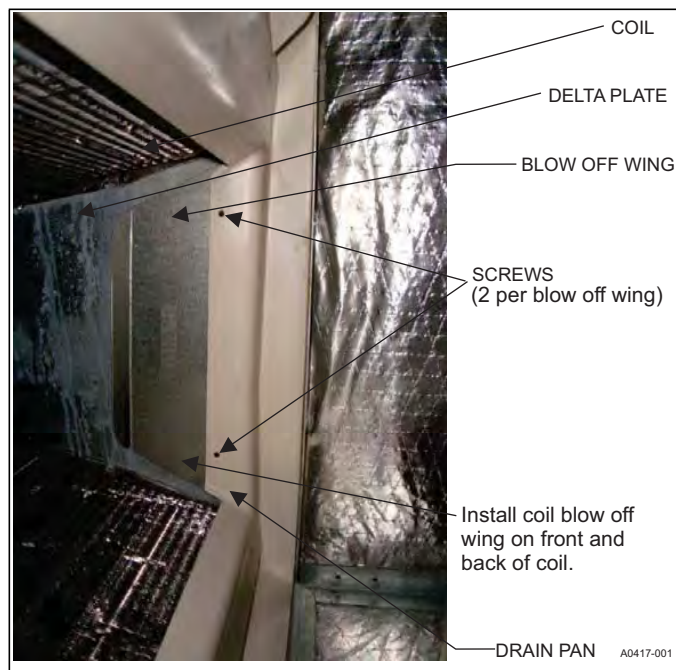

FIGURE 7: Coil Blow Off Wing Installation
9. For horizontal right applications (N coils only), the front and back coil blow off wings must be installed (blow off wings shipped in loose parts bag). Locate 4 screws securing coil delta plates to coil drain pan. Loosen the screws. Slide each coil blow off wing between the drain pan and the coil delta plate. Tighten screws to secure coil blow off wings. Refer to Figure 7.